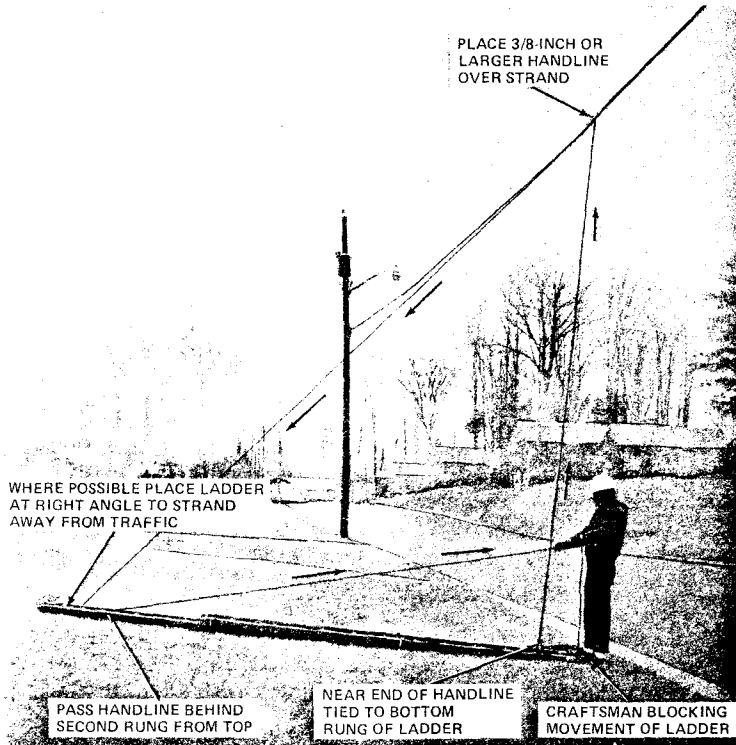

Fig. 39—Preparing to Raise Extension Ladder
9.17 The one-person method of raising an extension ladder, 23 feet or less, to a suspension strand is illustrated in Fig. 39 through 43.